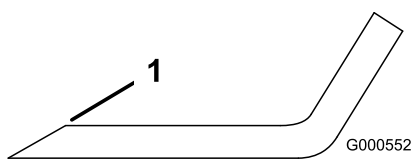
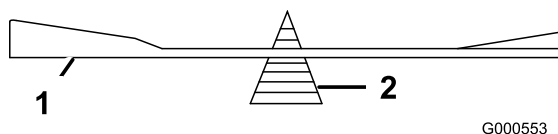

Figure 57
Figure 58
1. Use a file to sharpen the cutting edge at both ends of the blade (Figure 57). Maintain the original angle. The blade retains its balance if the same amount of material is removed from both cutting edges.
2. Check the balance of the blade by putting it on a blade balancer (Figure 58). If the blade stays in a horizontal position, the blade is balanced and can be used. If the blade is not balanced, file some metal off the end of the sail area only (Figure 57). Repeat this procedure until the blade is balanced.